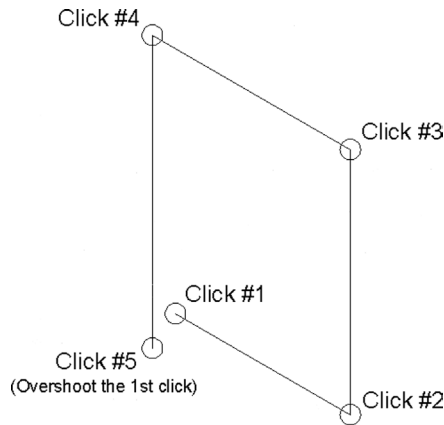

FIGURE 20.4 Isometric drawing, Step 5.
Step 5. Draw straight lines (as they should be with Ortho) of any size and continue drawing until you have the front face of a box. Very important: Do not try to connect the final line to the first line; you will never get it exactly right. Instead overshoot and click after passing it by, as shown in Fig. 20.4.